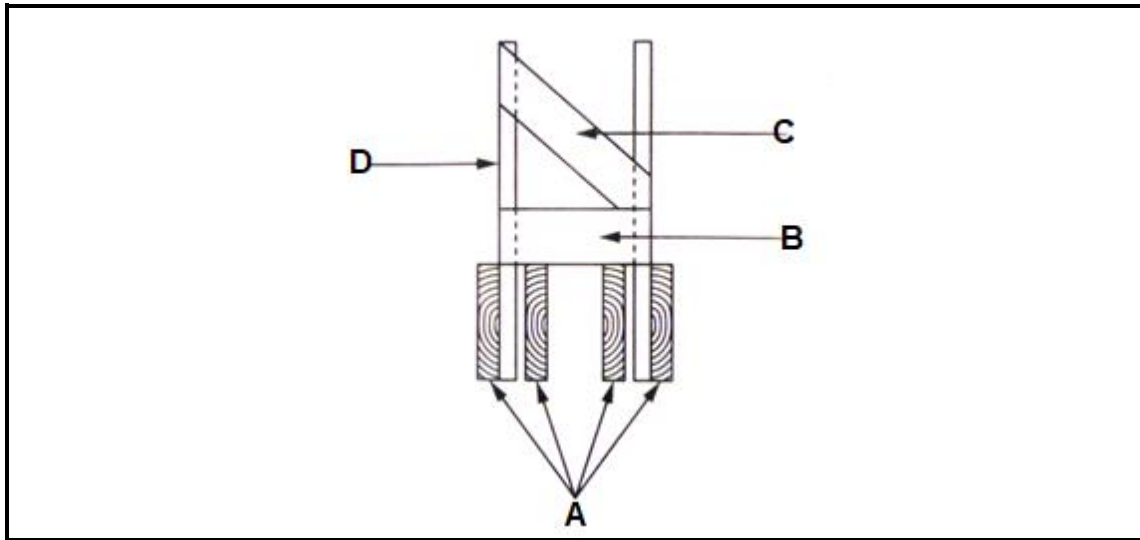

FIGURE 5.4
5.4 FIGURE 5.4 below shows a left view of the inside detail of the ties, braces and struts.
5.4.2 Explain ONE use of **A** as shown in FIGURE 5.4. (1)